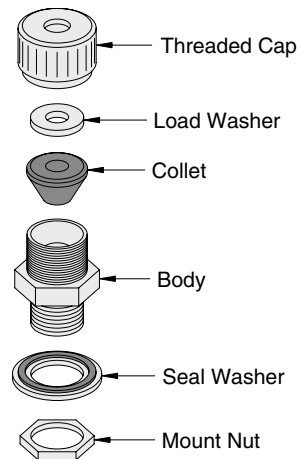

Figure 10-44 Typical Cable Clamp
Figure 10-44 shows typical collet style cable clamp. A cable is placed through the center of the clamp and a threaded cap is tightened down. As the cap is tightened a collet is compressed around the outside diameter (OD) of the cable, clamping it firmly. These units are available in a wide variety of styles and materials that are suitable for almost any situation.